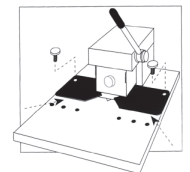

Fig. 5
- 2 - Install the optional corner rounding card guide and adjust with thumb-screws. [Figure 5]